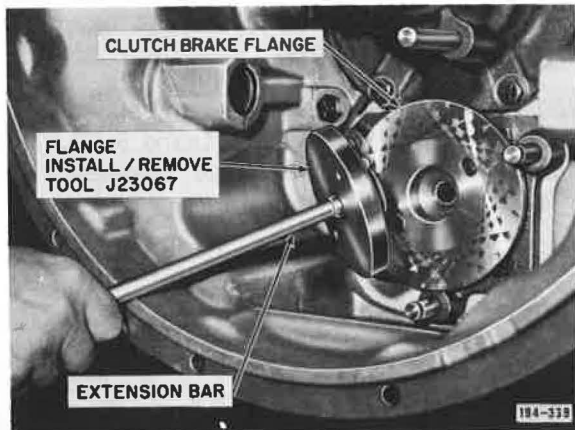

Figure 5-24. Removing Clutch Brake Flange
3. Remove clutch brake flange screw (left-hand thread). Using tool J23067, remove clutch brake flange. See Figure 5-24.